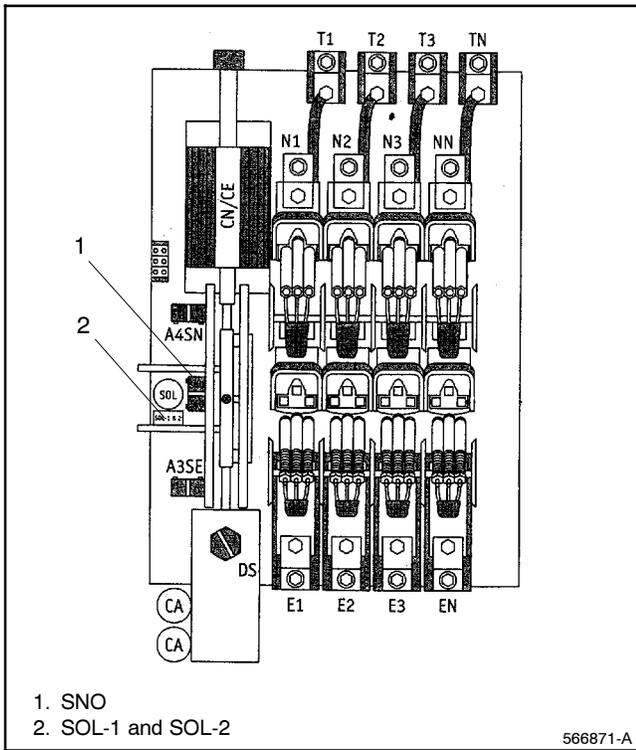

Figure 52 40-260 Amp Contactors
44. Find switches SOL-1, SOL-2, and SNO-1, located on the left side of the contactor assembly. See Figure 52.